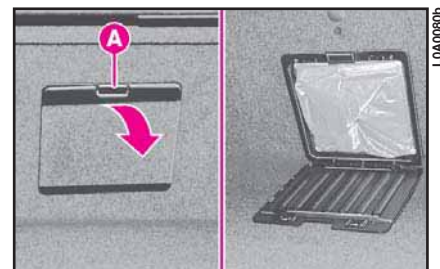

fig. 208
5) From the boot, lower the flap by pressing handle **A** (fig. 208).